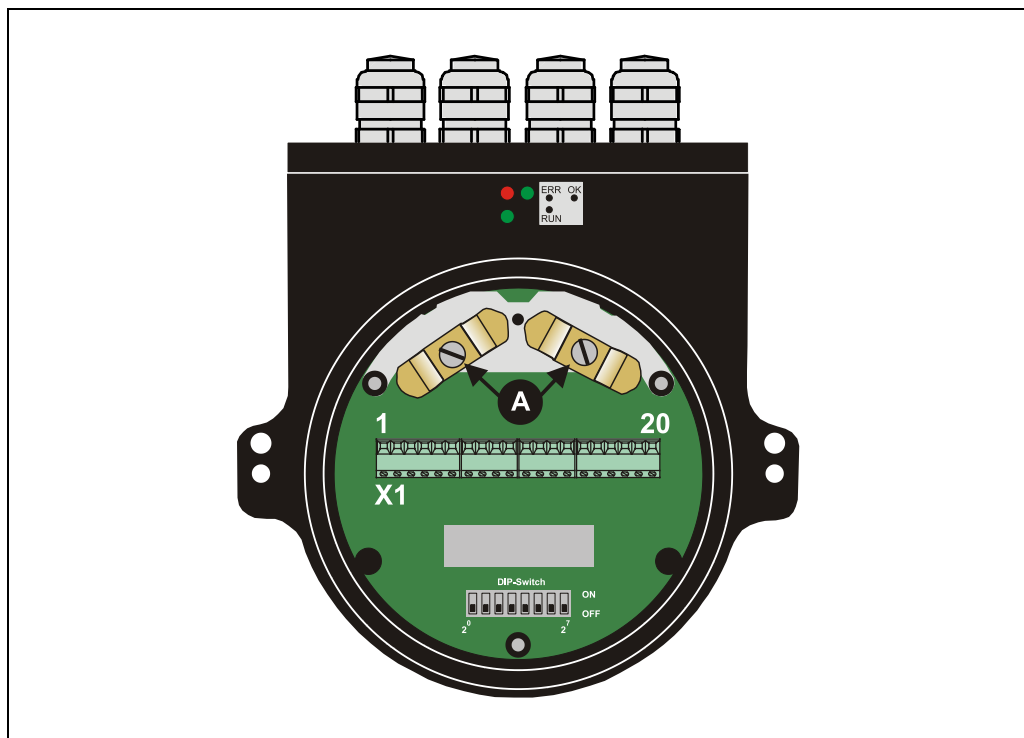

Figure 6: Connection cap with shield clampings
- Ensure continuous wiring of the shield and a large contact area on special shield clampings, see Figure 6 point **(A)**.